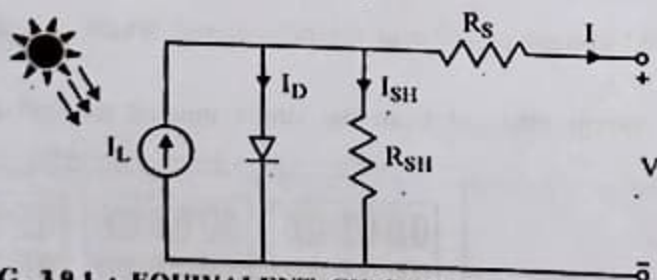

FIG. 3.9.1 : EQUIVALENT CIRCUIT OF SOLAR CELL.
- The equivalent circuit of a solar cell as shown in Fig. 3.9.1
- The resulting equivalent circuit of a solar cell is shown in Fig. 3.9.1.